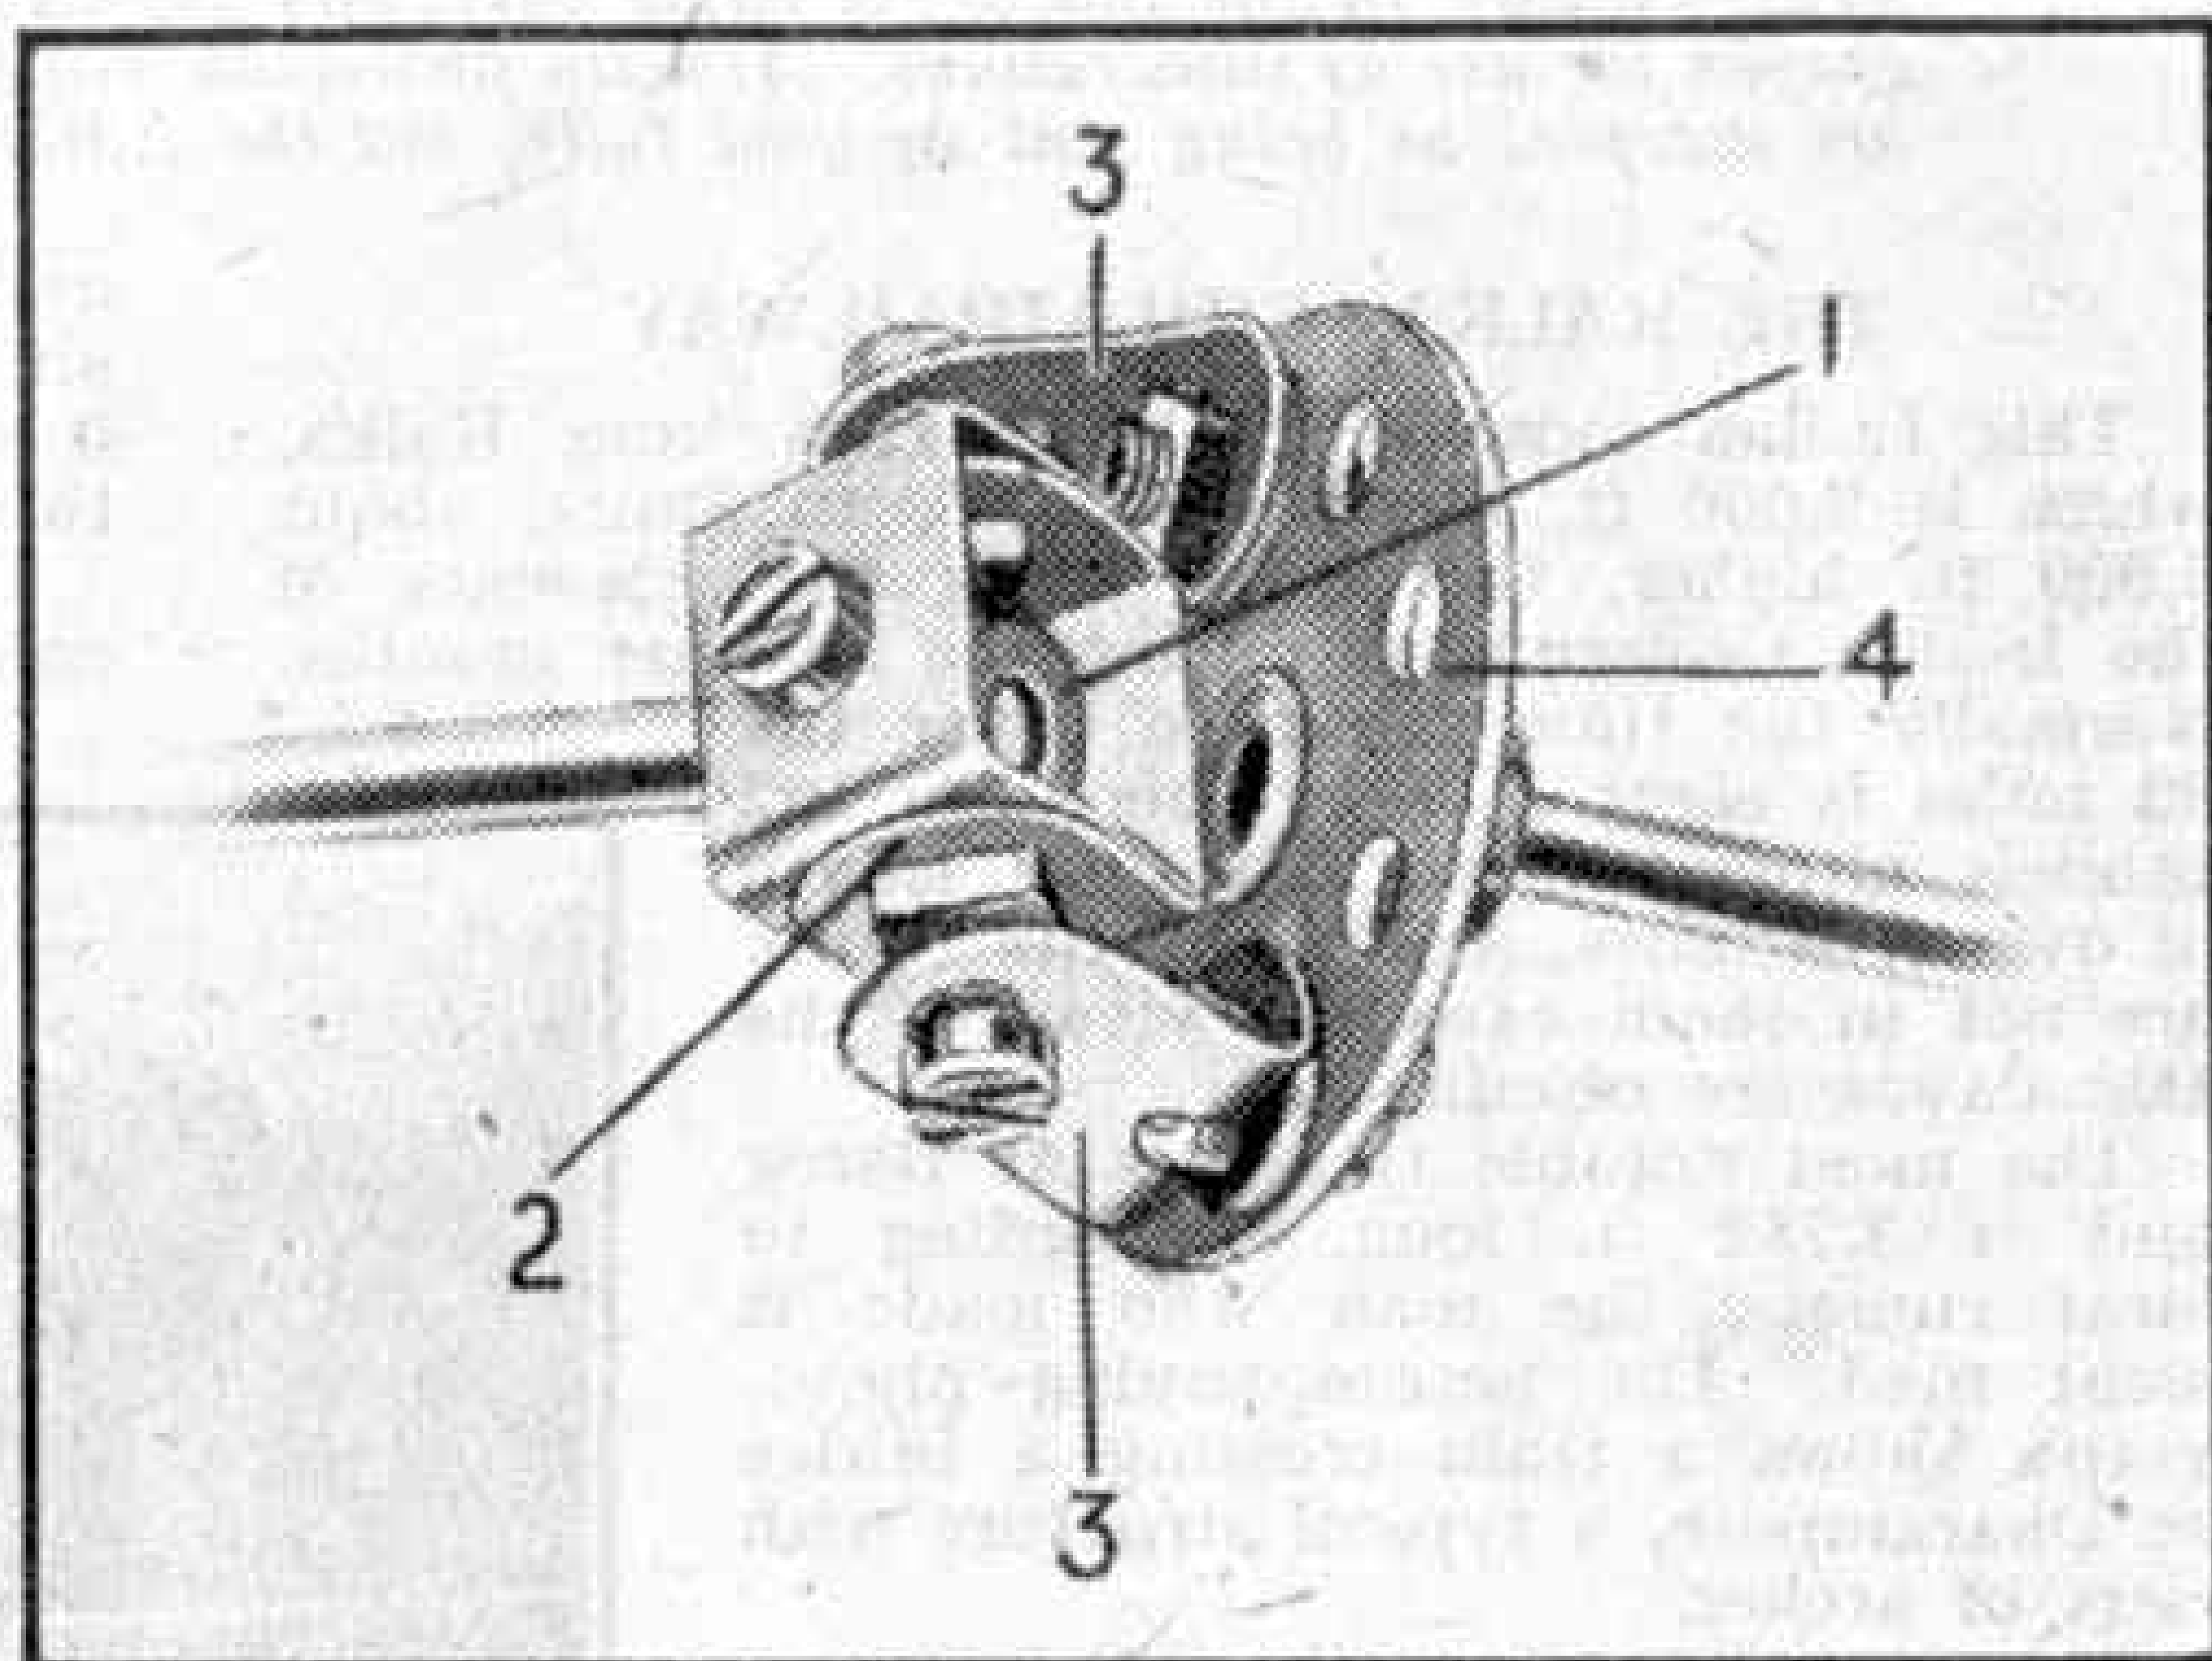

Fig. 681.
A. Partridge, is a particularly useful built-up universal coupling shown in Fig. 681. Although an ordinary collar is preferred by Partridge, the device is an excellent example of the value of the Aeroplane Collar (Part No. P.52) to model-builders who like experimenting and devising unorthodox methods of construction. Two or three of these Collars should be in the possession of every keen model-builder, as their small size is sometimes of great assistance in constructing a compact mechanism. In the universal coupling designed by Partridge the small size of the Aeroplane Collar 1 allows it to be